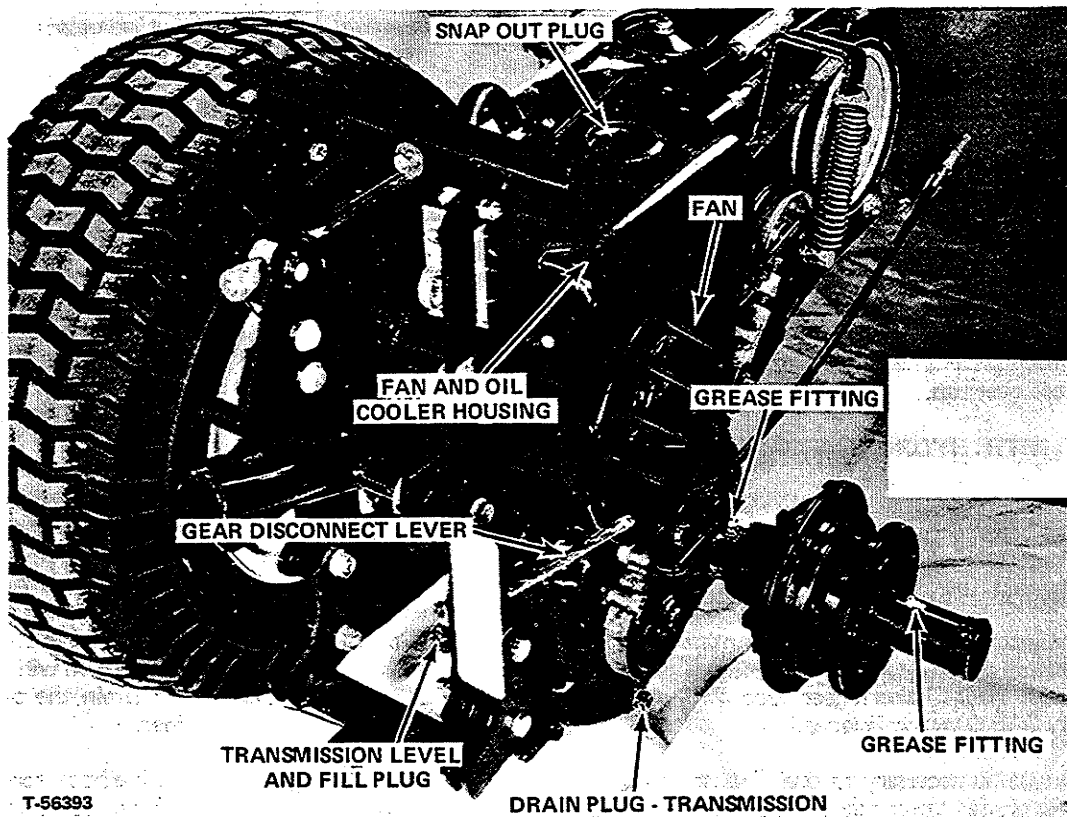

FIGURE 16
1. Transmission oil level shall be maintained up to the bottom of the oil level and fill plug (Figure 16). Fill with Allis-Chalmers gear lube 715 or good quality SAE 90 transmission oil.
If it should be necessary to drain transmission use the drain plug at lower side of housing (Figure 16).
2. Every 25 hours lubricate two grease fittings on right hand rear axle (See Figure 16), with good grade of automotive type pressure gun grease.
6. After every five (5) hours of operation (more often in dusty conditions) remove the snap-out plug from the fan and oil cooler housing and clean fan and cooler with air or water under pressure. Replace the plug by pressing it into the hole in cooler housing (Figures 16 and 18).